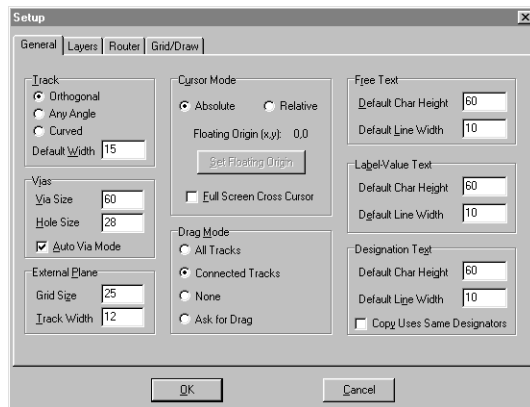

Figure 3.8. The Track and Via setup options are found under the General tab of the Setup dialog box.
- 1 Choose **Options > Setup**. The Track setup options are located in the upper left corner under the General tab (see figure 3.8.)
A via is a special type of pad used to pass current from one layer of a PCB to another. Like through hole pads, Trax-Maker vias occupy the Multi Layer. Another setting you'll change is the via size (see Figure 3.8.) A larger via size will work better with the larger track size you just chose.
- 1 Choose **Options > Setup**. The Via setup options are located on the left side under the General tab (see Figure 3.8.)